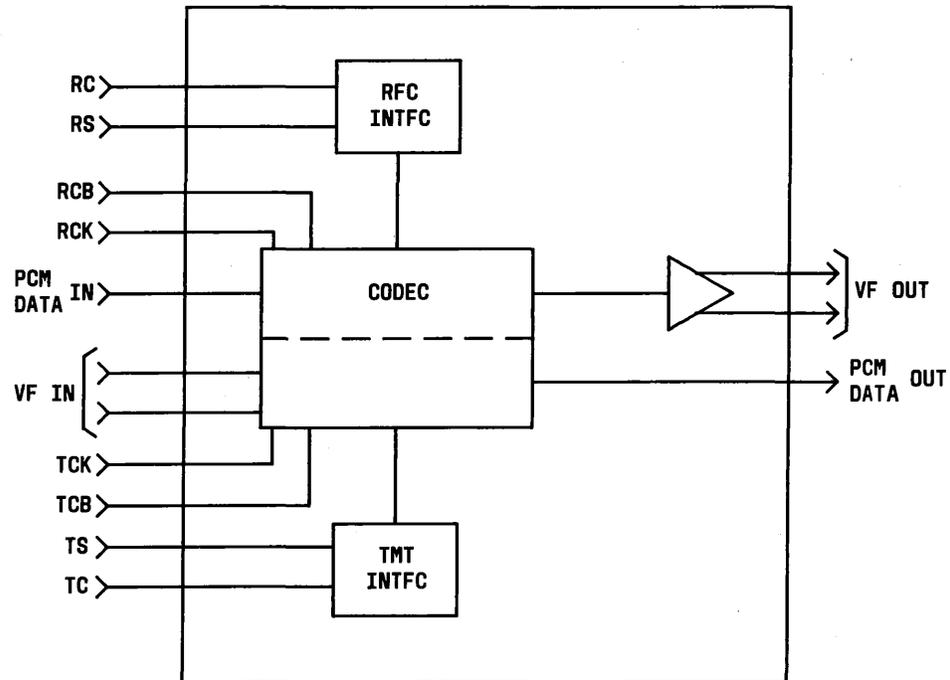

Fig. 2—210A Module—Voice Frequency Coder/Decoder
The 210A module (Fig. 2) provides encoding and decoding between voice frequency and digital 64-kb/s PCM (pulse-coded modulation). It has a 4-kHz bandwidth (VF), a standard input level of -16 dBm, and a standard output level of +7 dBm.